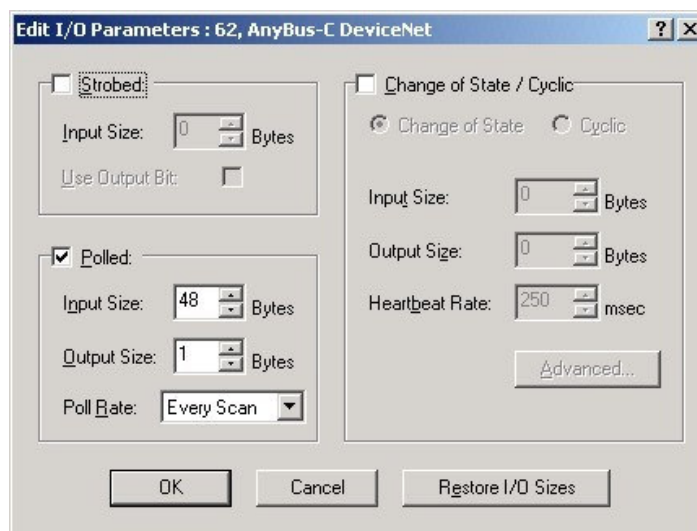

Figure 3
1. From the Scanlist window, select Edit I/O Parameters. A window will appear for configuring the I/O type and size. Select Polled for the I/O type and set the size for Inputs and Outputs based on the data returned by the serial application. Figure 3 gives an example.